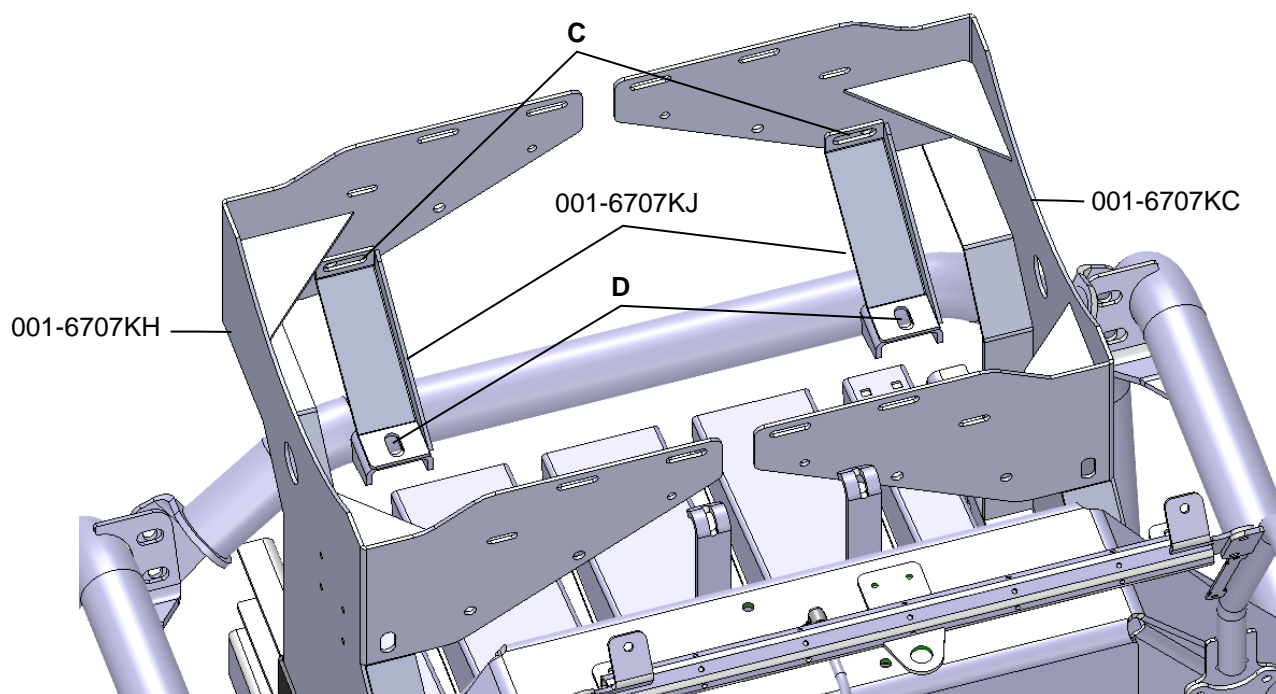

Figure 4
3. Once the saddle legs are attached, locate the tank support brackets (001-6707KJ) and secure one end of each to the tank brackets at point C in figure 4, and the other end to the support bar over the bale chamber as seen in figure 4 @ point D.